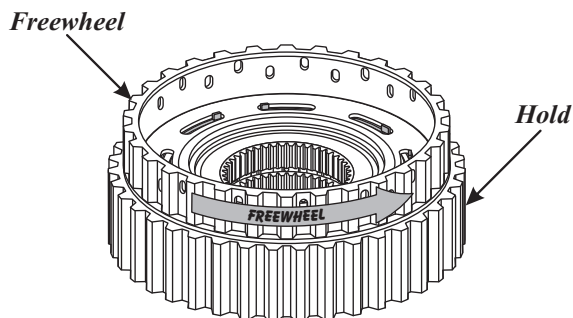

Figure 161
**Note: Check for proper sprag free-wheel, and lock, as shown in Figure 161.**